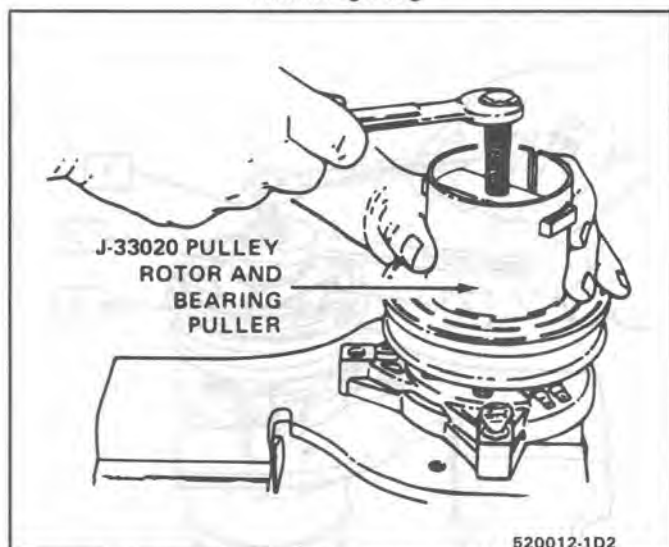

Fig. 12 Removing Pulley Rotor and Bearing Assembly
- puller tangs with the segments between the slots in the rotor (Fig. 12).